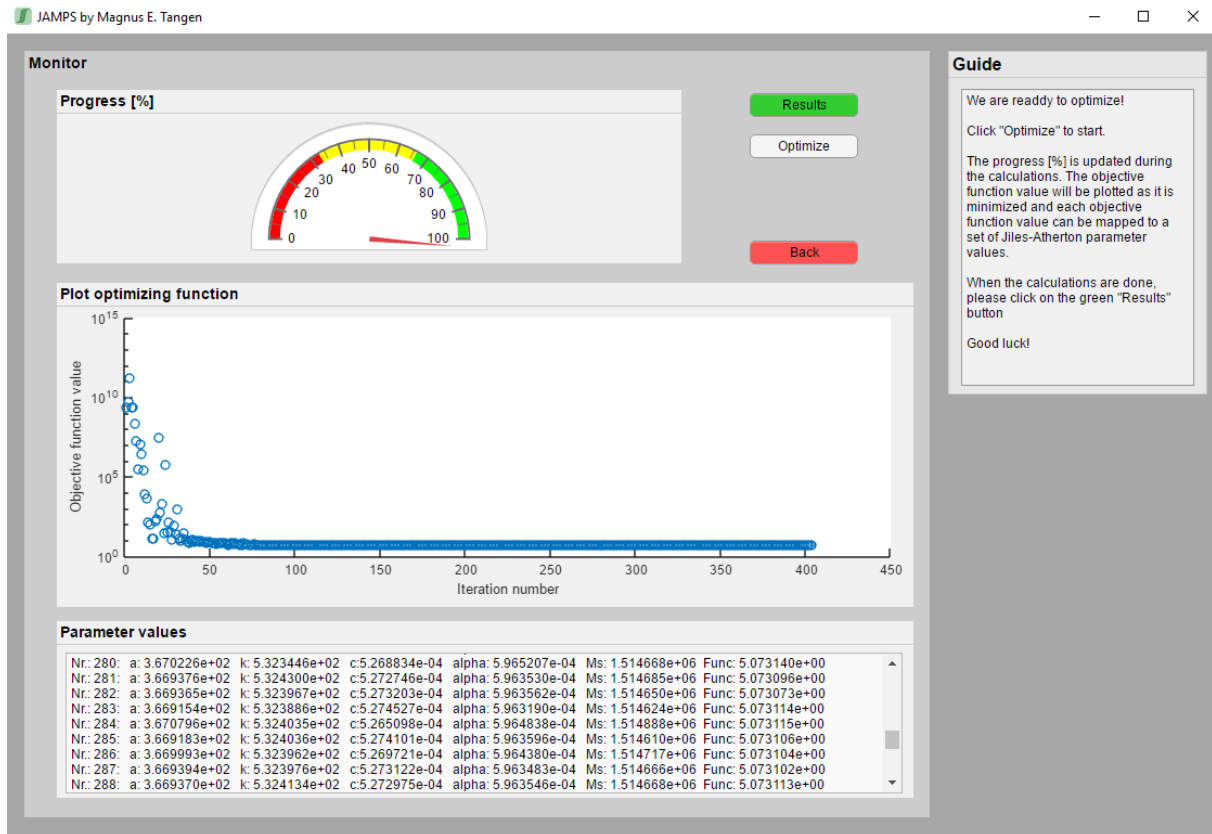

Figure 1.8: JAMPS manual - Monitoring the parameter search
- 4 'Monitor' takes you to the optimizing panel where the parameter search can be initiated, as seen in Figure 1.8.